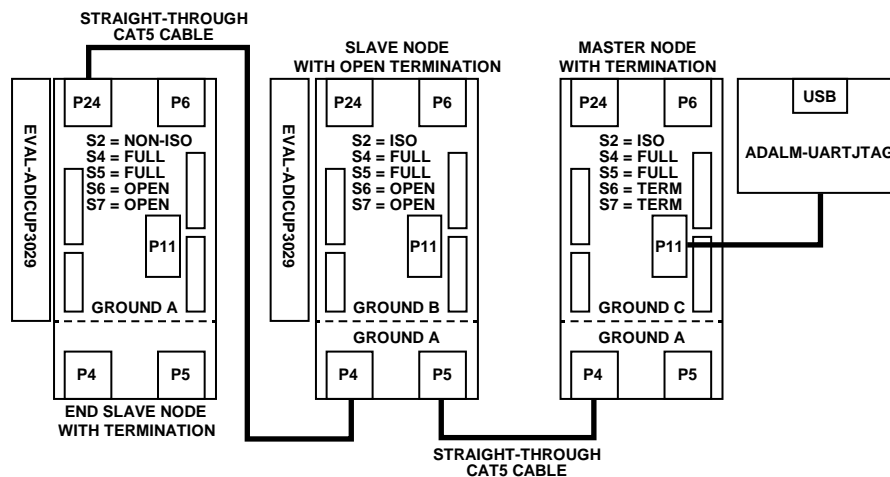

Figure 8. Combination of Isolated and Nonisolated Full-Duplex RS-485 Connection Diagram for Multinode Networks
Figure 8 shows a multinode network setup using both isolated and nonisolated RS-485 transceivers with two different slave nodes interfaced by the EVAL-ADICUP3029. Set up the on-board switches of each EVAL-CN0416-ARDZ board as indicated in Figure 8. Set the hexadecimal selection switch of each board to unique address values.
To setup the network shown in Figure 8, take the following steps:
2. Connect the EVAL-CN0416-ARDZ boards in the indicated ports (shown in Figure 8) using straight-through Ethernet cables.